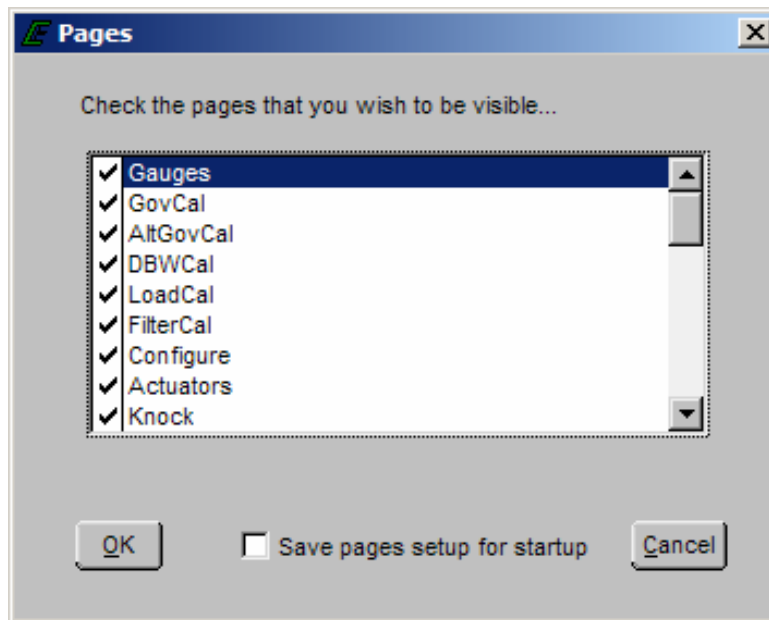

Figure 19: Page Configuration Interface
- **Pages:** Configures which pages will be selectable from the Page menu. Figure 19 shows an example of the Page Configuration Interface. Selecting a page for use is accomplished by a single left-click next to the page name. Pages available for display are password dependent. Pages may be retained for software re-entry by checking the 'Save pages setup for startup' checkbox.